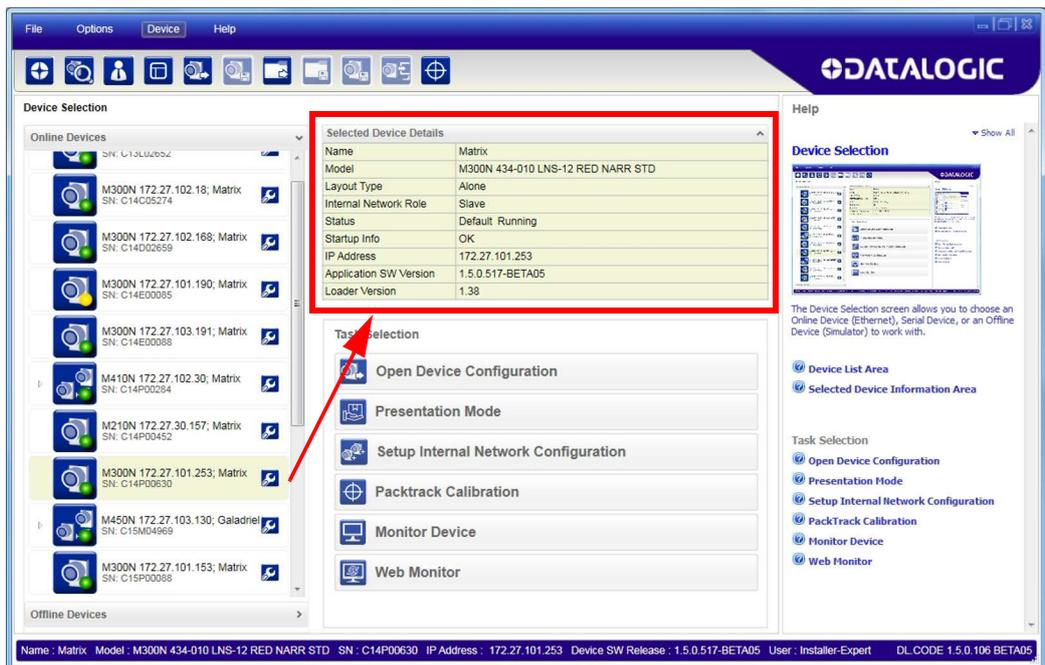

**Figure 4 - Device Environment Configuration Window**
3. Change the Ethernet Settings (IP Address, Subnet Mask, Gateway Address etc.) according to the network requirements. See also Figure 4 below.